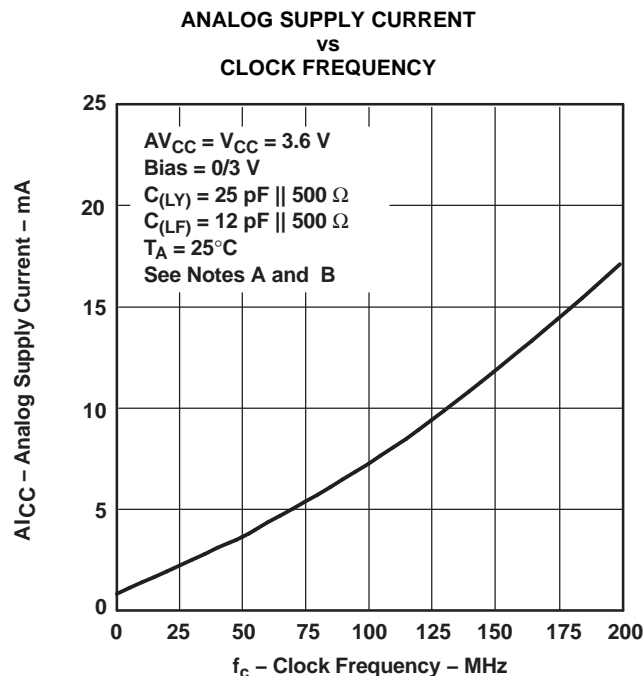
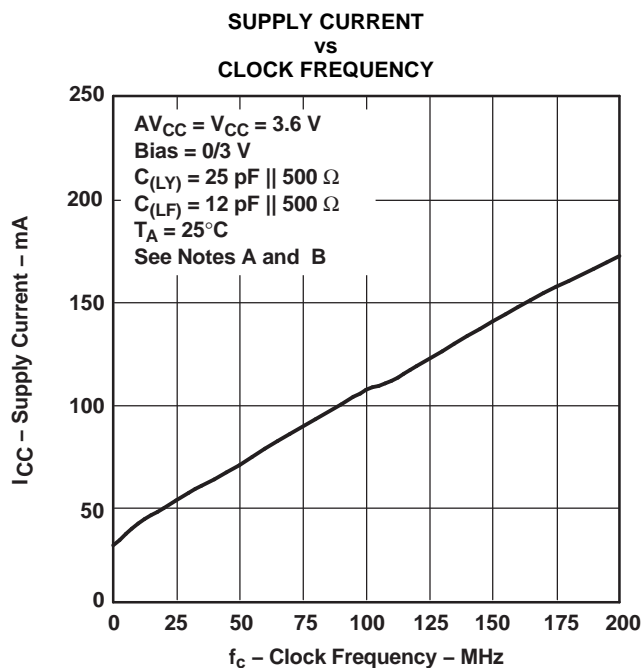

Figure 8.
Figure 9.
(1) For conditions shown as MIN or MAX, use the appropriate value specified under the *recommended operating conditions* section.
(2) For dynamic I_{CC} vs Frequency, see Figure 8 and Figure 9.